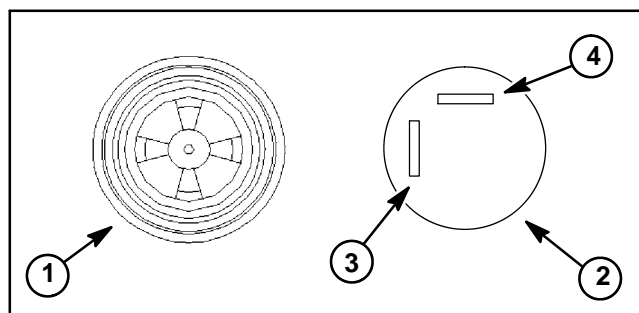

Figure 43
4. Correctly connect 12VDC source to the alarm terminals (Fig. 43).